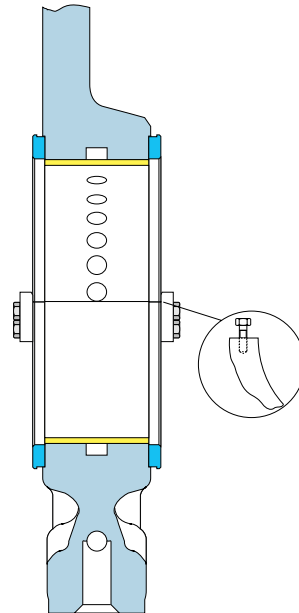

Fig 10-3
- 14** Remove the lower bearing shell and the thrust washers. To remove the thrust washer next to the driving end, an M6 screw can be fitted to each end of the washer, see Fig 10-3.
**8** Lubricate the bearing surfaces of the lower thrust washers and push them into position on the guiding pins in the bearing cap. For mounting the thrust washer next to the driving end an M6 screw can be fitted to each end of the washer, see Fig 10-3.